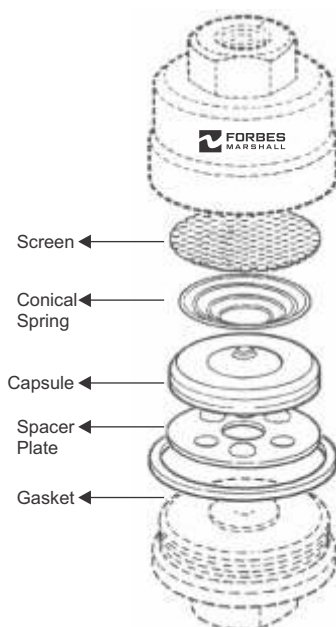

Figure 3 : Exploded View of Forbes Marshall Instrument Tracer Line Trap
9. Available Spares: [Refer figure 3]